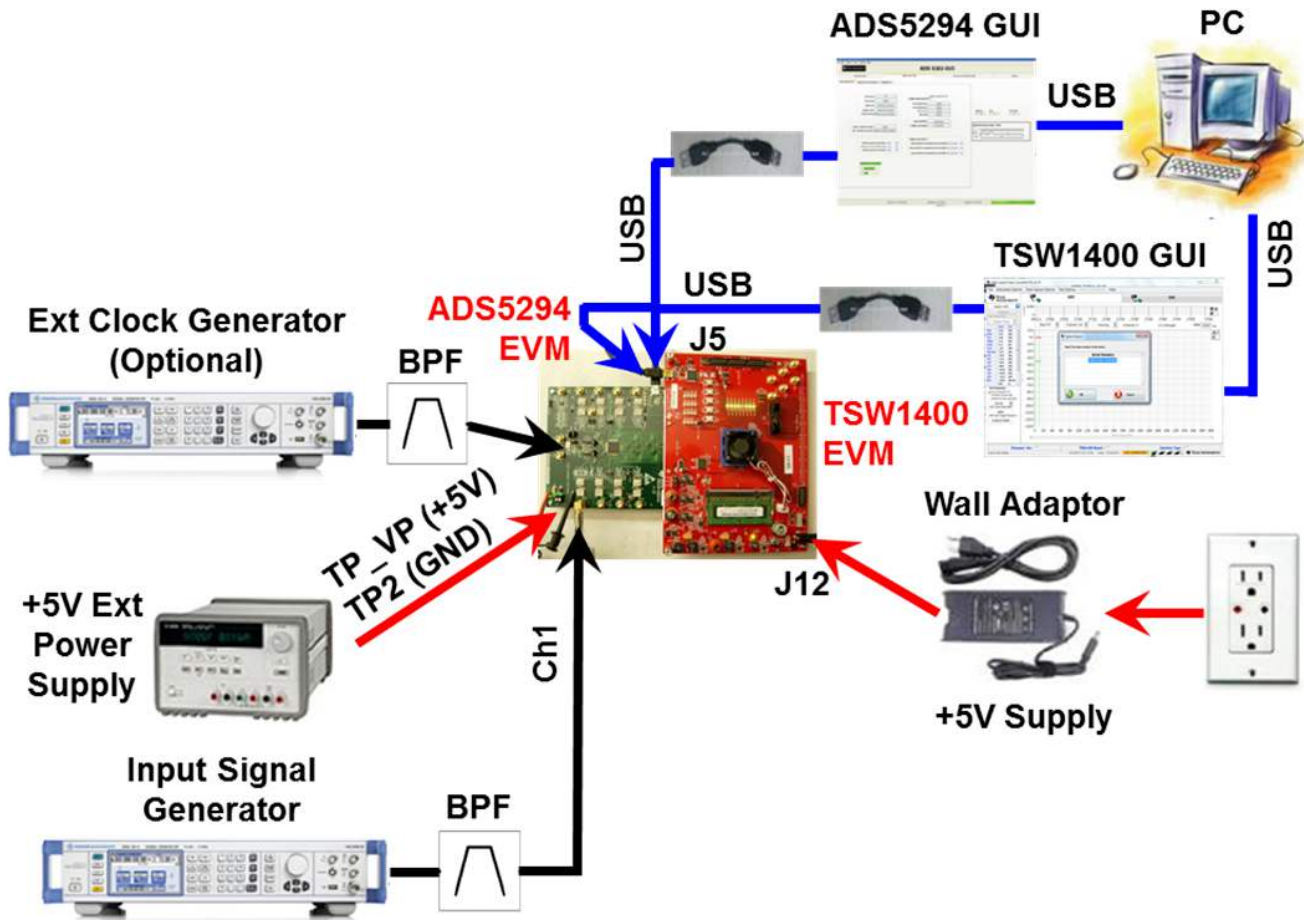

Figure 1. Evaluation Setup
Figure 1 shows an overview of the evaluation setup that includes the ADS5294EVM evaluation module (EVM), TSW1400EVM, external equipment, personal computer (PC), and software requirements.